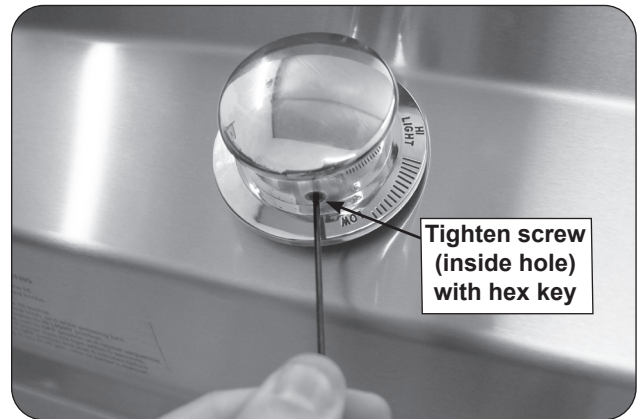

Fig. 28-2 Tighten screw to lock knobs
3. Insert the included .078" (2mm) hex key through the small hole located on the side of the knob and fully tighten the screw (see Fig. 28-2).